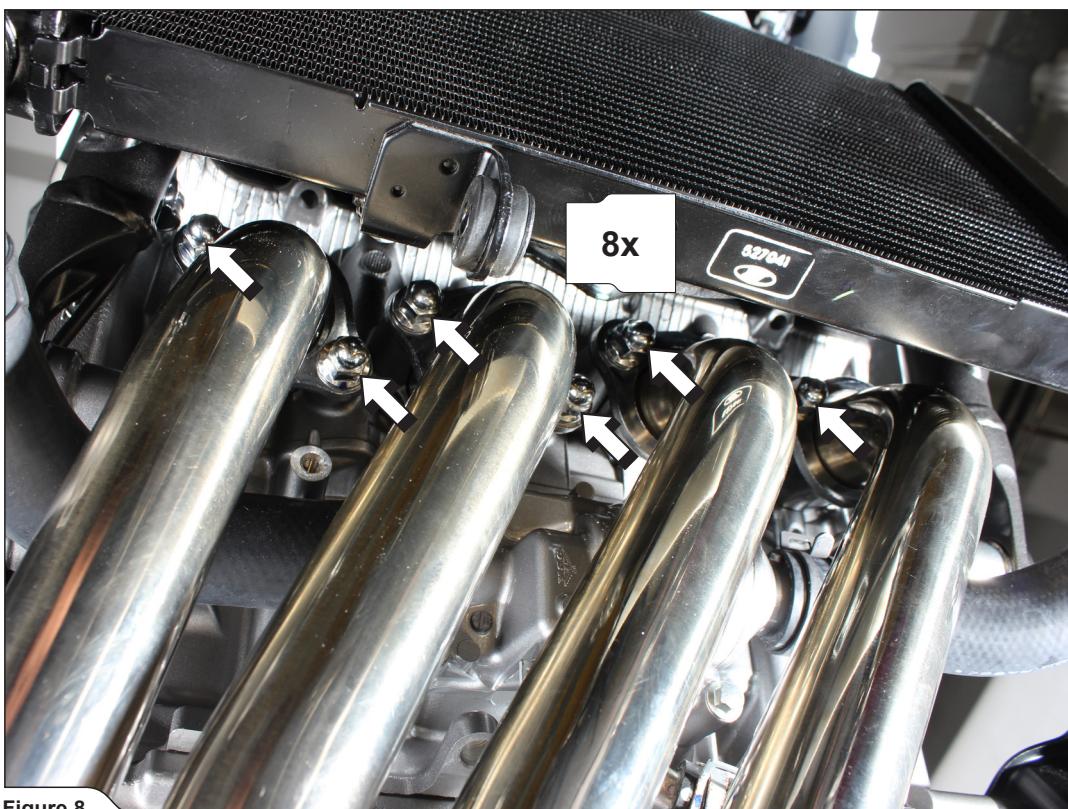

Figure 8
5. Unscrew all flange nuts (Figure 8).